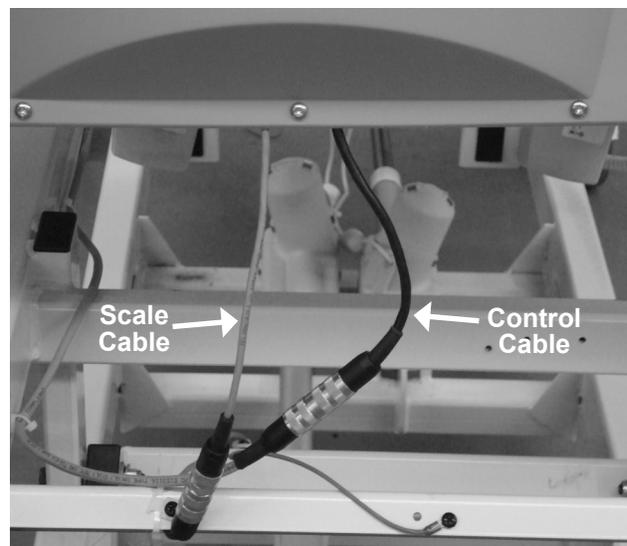

Figure 2
3. Connect cables exiting the bottom of the foot panel to the appropriate cables on the bed frame (Figure 2).
4. Disconnect foot panel cables (Figure 2).